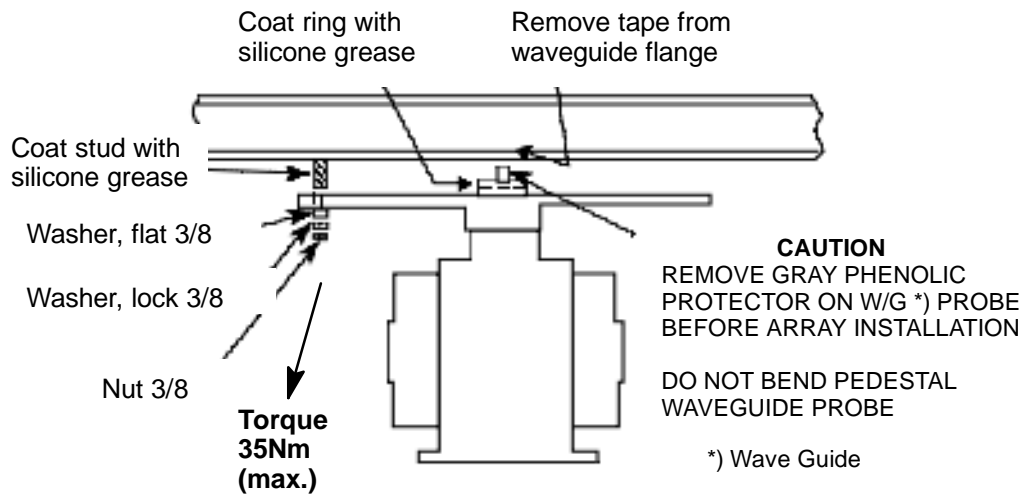

Figure: 2-9 X-Band Array Mounting
- (1) Unpack array using care not to damage array mounting studs.
- (2) Remove tape from waveguide flange of antenna array.
- (3) Remove antenna probe feed protection cover. Use caution when lifting the array into position to avoid damaging the probe.
- (4) Grease O-Ring located around rotary joint housing with Silicone Grease.
- (5) Lift the antenna array into position above the mounting bar and carefully align the mounting holes; then lower the array onto the mounting bar. Coat array mounting studs with silicone grease, Figure: 2-9 .